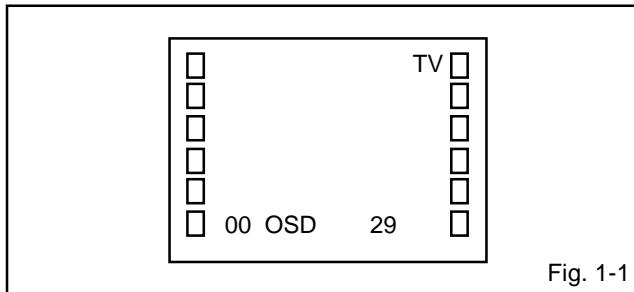

Fig. 1-1
Press the VOL. DOWN button on the set and the Channel button **(9)** on the remote control for more than 2 seconds to appear the adjustment mode on the screen as shown in **Fig. 1-1**.
4. Activate the adjustment mode display of **Fig. 1-1** and press the channel button **(01)** on the remote control to select "CUT OFF".
4. Activate the adjustment mode display of **Fig. 1-1** and press the channel button **(12)** on the remote control to select "R. BIAS".
10. If the picture is too much green. Activate the adjustment mode display of **Fig. 1-1** and press the channel button **(28)** on the remote control to select "CB PED".
12. If the picture is too much red. Activate the adjustment mode display of **Fig. 1-1** and press the channel button **(29)** on the remote control to select "CR PED".